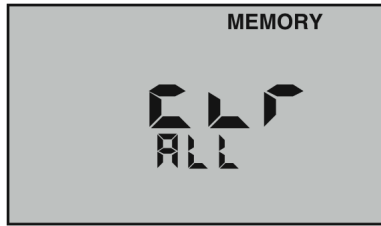

Figure 7
6. To clear **all** records: After pressing , scroll down. “**CLR ALL**” will be displayed (see Figure 7, pg. 38).